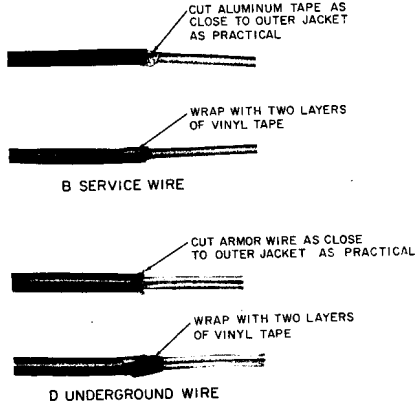
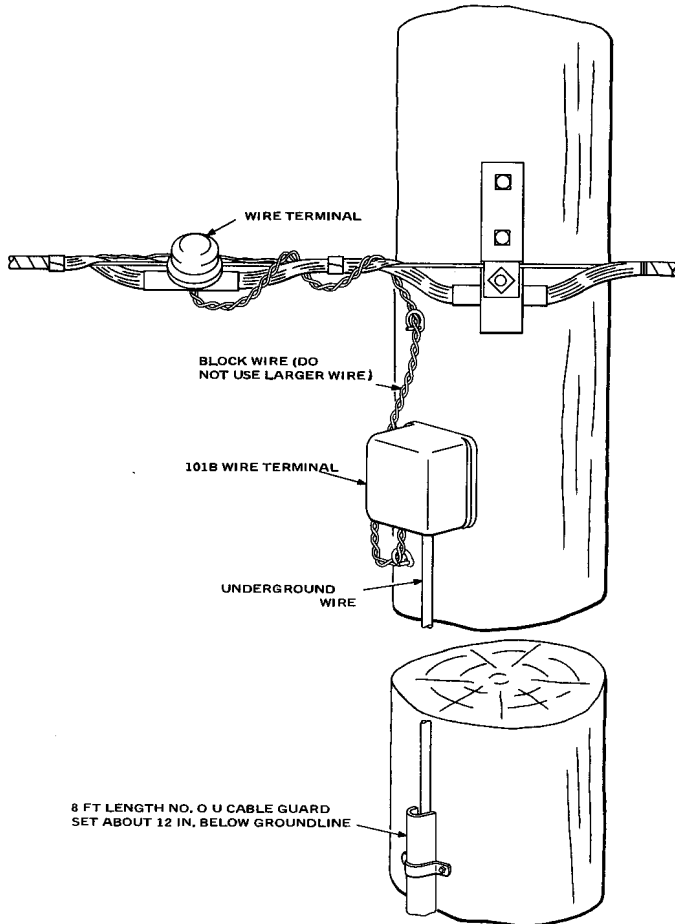

FIGURE 2. Removal of Aluminum Tape or Armor Wire
FIGURE 5. Underground Wire Terminated to Multiple Wire
2.04 Where the direct buried wire is 500 feet or less in length, grounding of the armor wire or bronze tape at the cable terminal is omitted. Cut off the armor wire or bronze tape and wrap with two turns of vinyl tape to protect against sharp edges. See Figure 2.
3.02 Direct buried wire can be used with or fed from multiple wire where the multiple wire is exposed to power contact and fuseless station protection is used. Direct buried wire should be brought up a pole and terminated in a pole mounted wire terminal. At the groundline, the wire should be covered with an 8 foot length of No. 0 U cable guard. Cut off the armor wire as shown in Figure 2. Connect the conductors of the direct buried wire to the conductors of the multiple wire with block wire. Figure 5 shows a typical example of direct buried wire being connected to a strand mounted wire terminal.